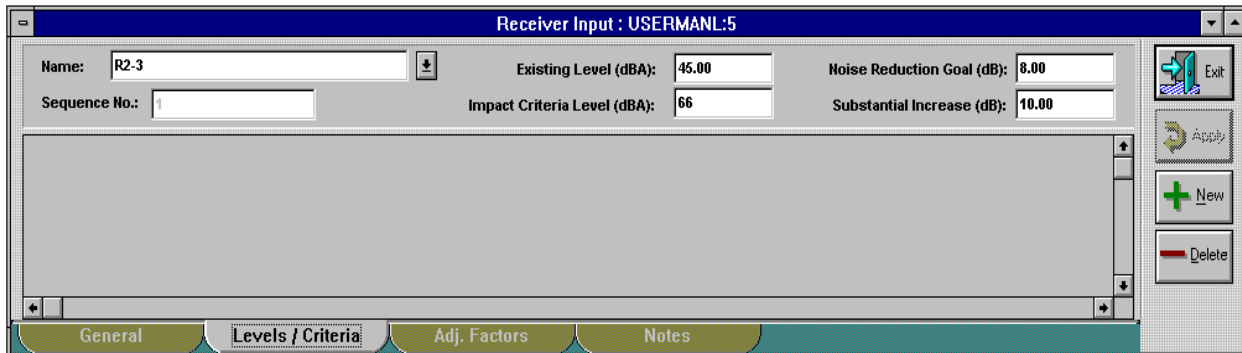

Figure 28. Receiver input: Levels/Criteria tab.
2. Select **Levels / Criteria** on the receiver input dialog (see Figure 28).